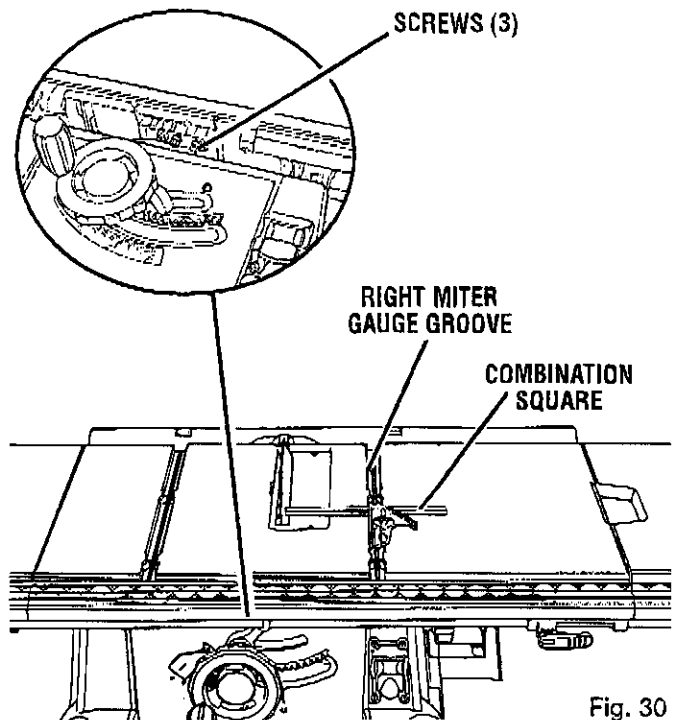

Fig. 30
See Figures 30 - 32.
- Mark beside one of the blade teeth at the front of the blade. Place the body of a combination square against the miter gauge groove as shown in figure 30. Measure the distance to the right gauge groove.